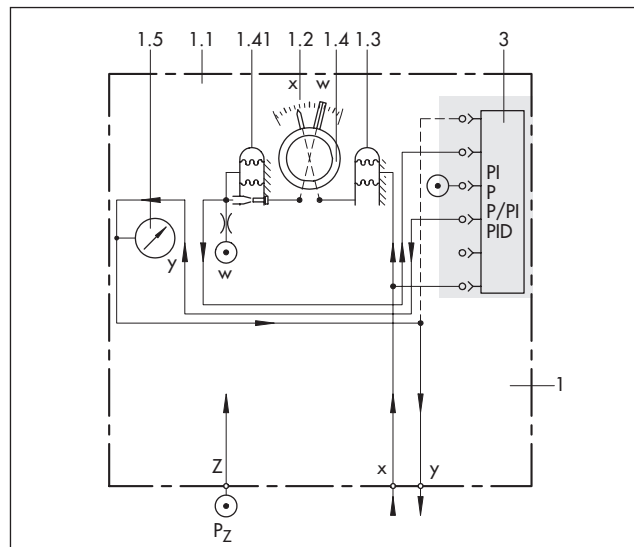
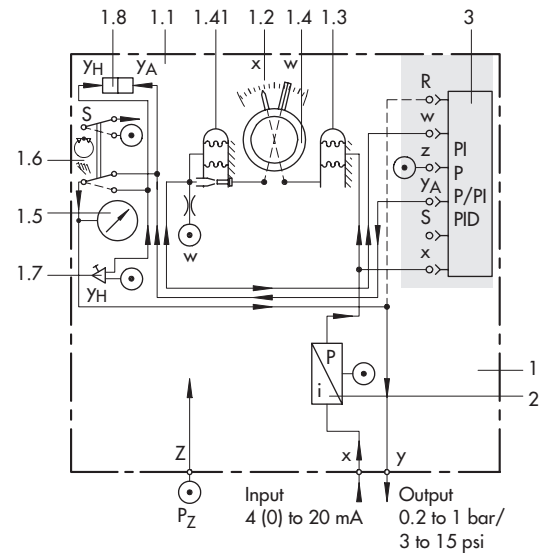

Fig. 4 · Fixed set point controller for pneumatic standardized signals, version with Type 3431-01, functional diagram
Fig. 7 · Fixed set point controller for electric standardized signals, version with Type 3431-02 Controller Station
**Principle of operation** (see Figs. 4 to 7)
The controller station (fixed set point controller with pneumatic input) shown in Fig. 4 consists of scale (1.2), controlled variable display (1.3), set point adjuster (1.4), and plug-in connections for a controller module (3). These pneumatic connections are self-sealing when the module is unplugged. The controlled variable signal  $x$  produces a deflection on the bellows measuring system of the controlled variable display (1.3) which is transmitted to the pointer over a gear mechanism. The set point (reference variable  $w$ ) can be adjusted on a scale (1.2) at the controller front. The position of the set point adjuster is transmitted to the set point transmitter (1.4) over a gear mechanism. This servo system (1.41) converts the adjusted set point into a pneumatic set point signal ( $w$ ), which is fed to the controller module. The controller module compares the controlled variable signal and the set point signal ( $x$  and  $w$ ) and produces an output signal  $y_A$  depending on the system deviation and the adjusted control parameters. The output signal is connected to the output signal display (1.5) and output  $y$ .
The controller station shown in Fig. 5 largely corresponds to the version shown in Fig. 4. However, the station additionally contains a manual/automatic switch (1.6), a manual adjuster (1.7), and a differential pressure display (1.8). When the switch is in position AUTOMATIC, the output signal display (1.5) and output  $y$  are connected with the automatic output signal  $y_A$ . When the switch is in position MANUAL, the output signal display and output  $y$  are connected to the manual output signal  $y_H$  set at the adjuster. Smooth changeover from manual to automatic operation is possible when the differential pressure display indicates that  $y_A$  and  $y_H$  are identical. The follower controllers are not equipped with a set point adjuster (1.4); they come with a set point display. The version shown here includes a pneumatic input for the external reference variable  $w_{ext}$ .
The versions with i/p converter (Fig. 7) are designed for connection of 4 to 20 mA or 0 to 20 mA electric input signals (controlled variable  $x$ ). The standardized input signal of a transmitter is fed to the i/p converter (2) and converted into a pneumatic standardized signal from 0.2 to 1 bar. The controller stations largely correspond to the versions shown in Figs. 4, 5, and 6. However, the stations additionally contain an i/p converter (2) whose output signal is applied to the bellows measuring system of the controlled variable display (1.3) and the controller module (3). Follower controller with electric input  $w_{ext} = 4$  to 20 mA or 0 to 20 mA are equipped with an additional i/p converter. The controller stations can be equipped with various controller modules, e.g. with Type 3434 for common P or PI control, with Type 3433 for P, PI, PID and PD control as well as with additional modules for special control tasks. For details on the controller modules refer to Data Sheets T 7040 EN and T 7041 EN. The controller stations can optionally be equipped with 1 or 2 adjustable inductive limit switches.